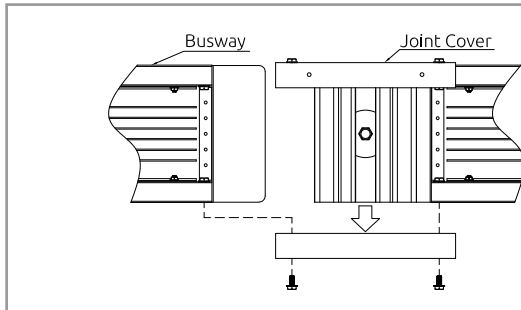

Figure 6.1. Top view
1. Remove both joint cover, shown in Figure 6.1, retain the bolts.